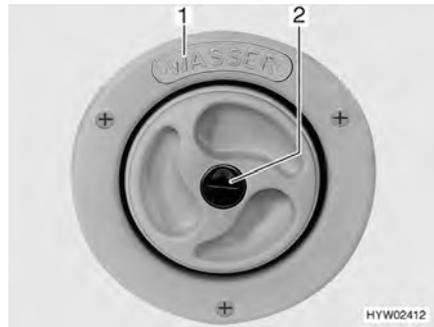
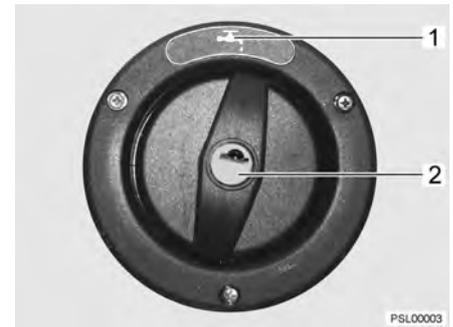

Fig. 38 Cap for the drinking water filler neck
Fig. 39 Cap for the drinking water filler neck (alternative)
- ▷ The drinking water filler neck is labelled by the word "WASSER" (water) (Fig. 38,1) or marked by the symbol  (Fig. 39,1).
- Insert the key in the locking cylinder (Fig. 38,2 or Fig. 39,2) and turn it in an anticlockwise direction.